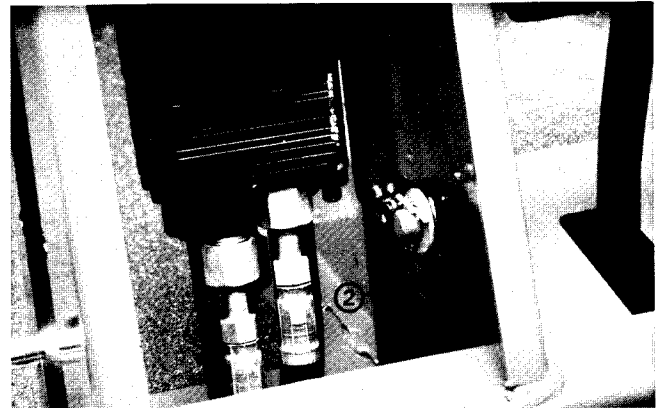

Figure 15
2. Remove the two (2) cotter pins and the flat washer from the lower end of the parking brake rod (Fig. 15). Remove the cotter pin and flat washer securing the rack to the pivot pin. Pull the rod out of the rack. Pull the rack off the pivot pin.